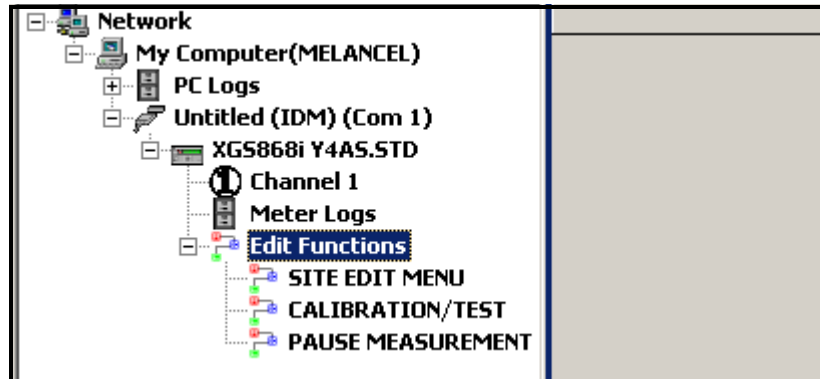

Figure C-9: Menus in the *Edit Functions* Option
2. Expand the *Edit Functions* option. The window now appears similar to that shown in Figure C-9 on the next page.
4. To enter a particular menu (Channel 1, Channel 2, or Global), highlight and double-click on the desired menu in the left pane. For example, clicking on Channel 1 in Figure C-9 above opens the list of options shown in the center pane.